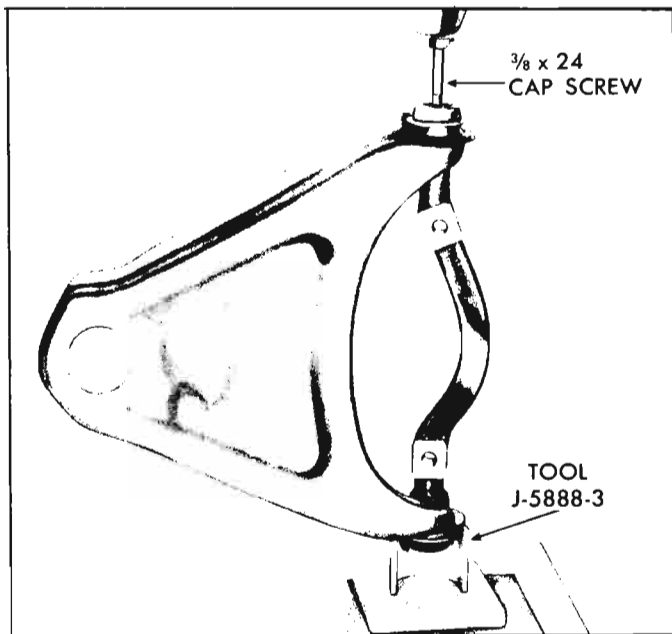

Fig. 3-61—Removing Upper Control Arm Cross Shaft Bushings
3. Support control arm in an arbor press on Tool J-5888-3 as shown in Figure 3-61.